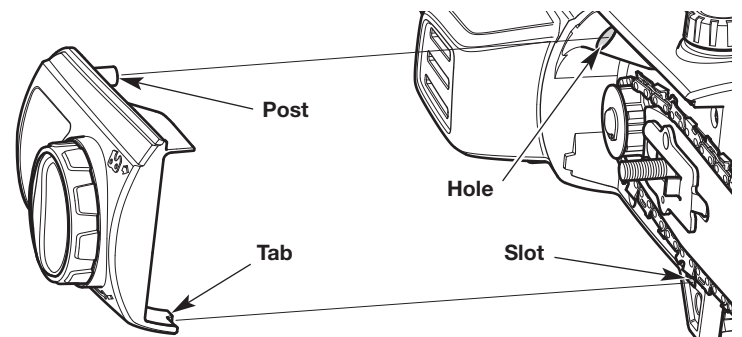

Fig. 27
6. Place the bar cover onto the motor housing. Make sure the tab on the bar cover is seated securely in the slot on the motor housing (Fig. 27). Make sure the post on the bar cover is seated securely in the hole on the motor housing (Fig. 27).